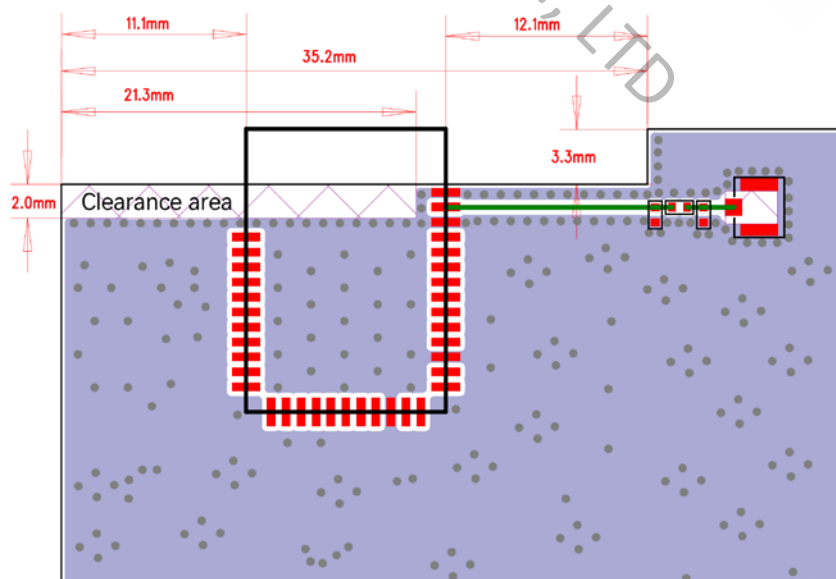

Figure 8-2-3: Module Layout - Baseboard TOP Layer
**Recommendation 2:** Similar to Recommendation 1, place the module at the edge of the baseboard (**the customer's baseboard must be hollowed out**). The TOP layer layout is shown in Figure 8-2-3: